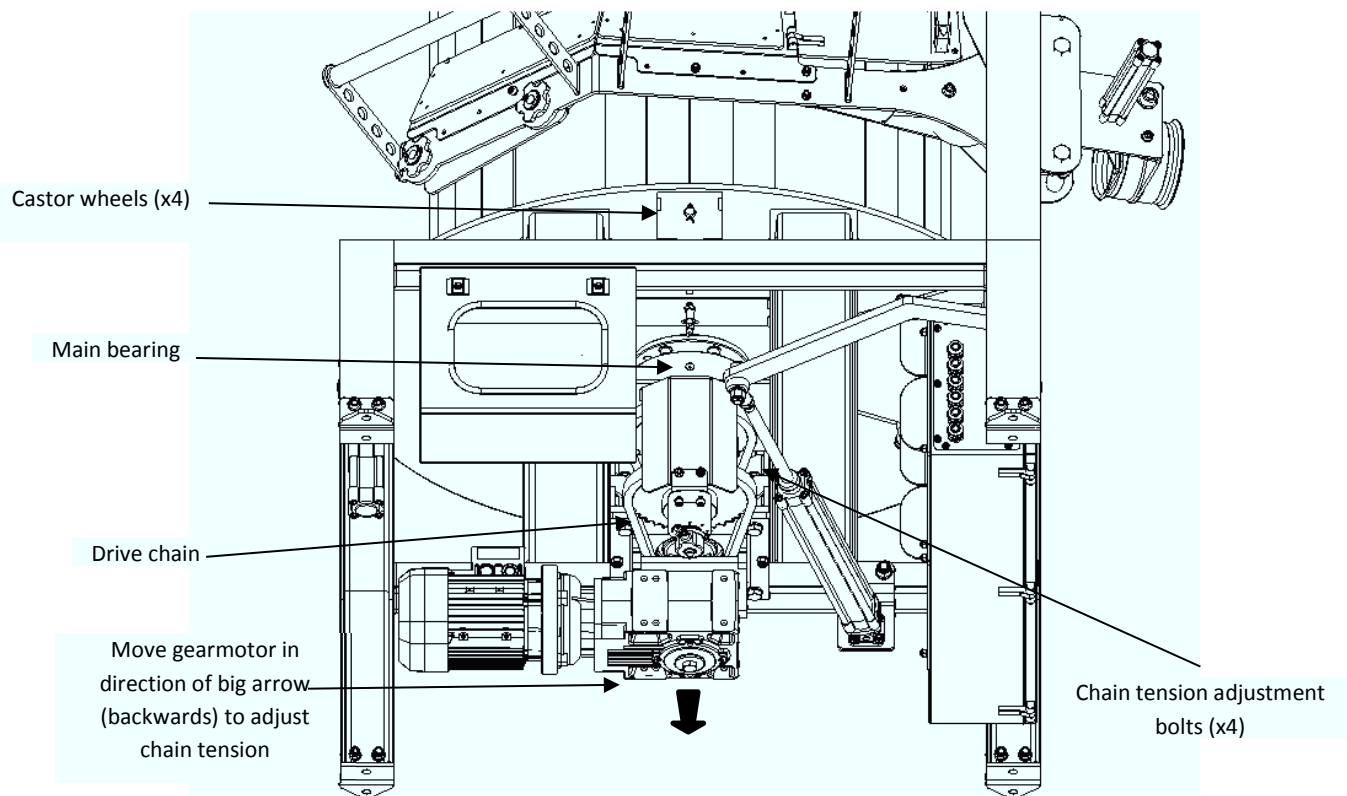

Figure 27: Coiler bottom end
- The main bearing under the turntable should be greased every 6 months through the grease nipple (Figure 27).
- The drive chain should be lubricated with a suitable chain lubricant (Figure 27).
- Main bearing (Figure 27) – Every 6 to 12 months, depending on usage
- Castor wheels under turntable (Figure 27)
- To adjust chain tension, loosen (do not remove completely) the four chain tension adjustment bolts (Figure 27).
NOTE that the linkage bolts on the mandrel (Figure 27) should not be overtightened as this will impair the operation of the mandrel.